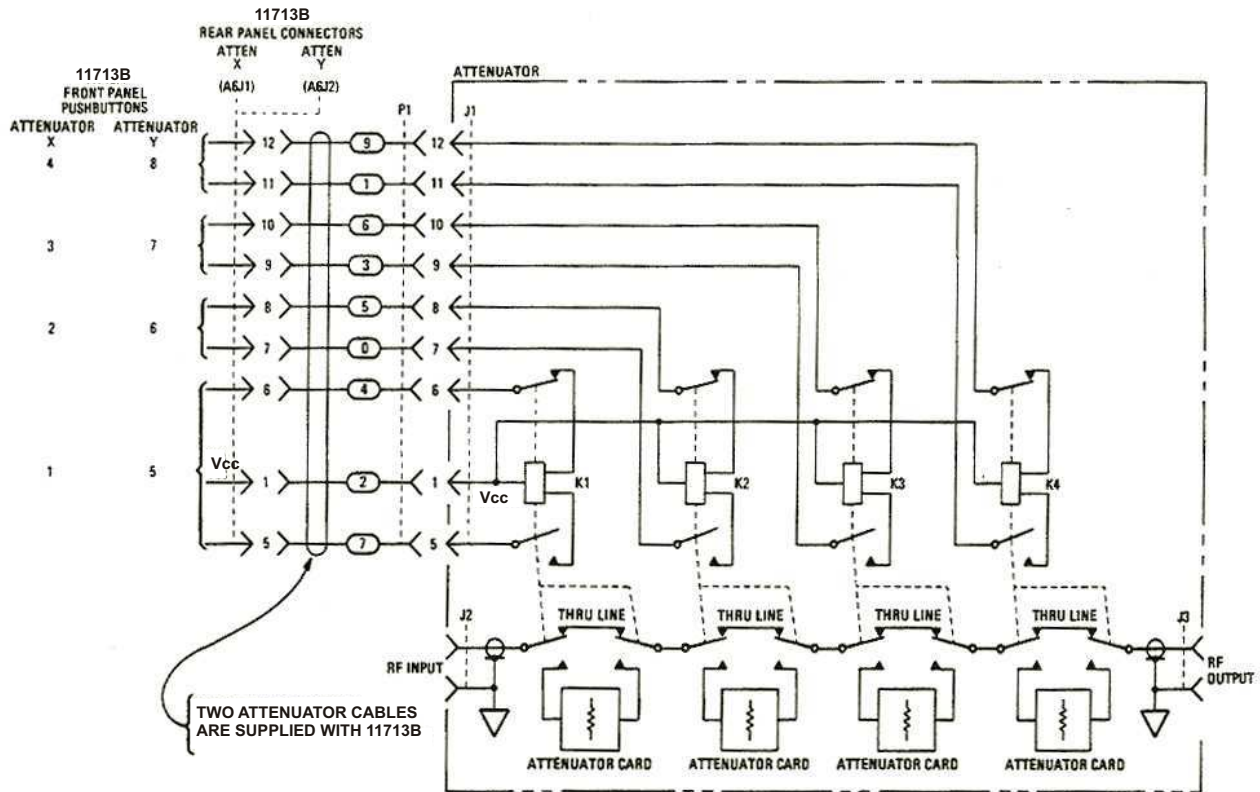

Figure 8 Typical connection for a programmable four-section attenuator
- A typical connection for a programmable four-section attenuator to 11713B is illustrated in Figure 8, together with pin number for each connector.
- Connections to Keysight 8762 or 8765 series coaxial switches can also be made to the ATTEN X output or ATTEN Y output as illustrated in **Figure 8**.